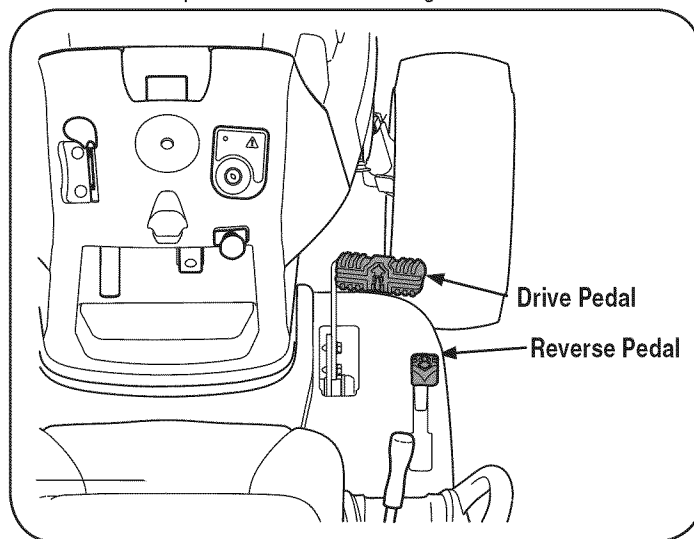

Figure 7
1. To travel FORWARD, slowly press the drive pedal forward until the desired speed is achieved. See Figure 7.
2. To travel in REVERSE, check that the area behind is clear then slowly depress the reverse pedal with the ball of your foot (NOT your heel) until the desired speed is achieved. See Figure 7.